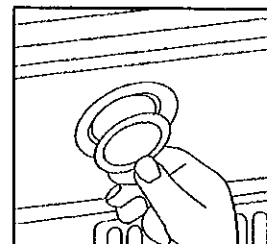

Fig. 11
- **(Fig. 11)** Replace protective cover.